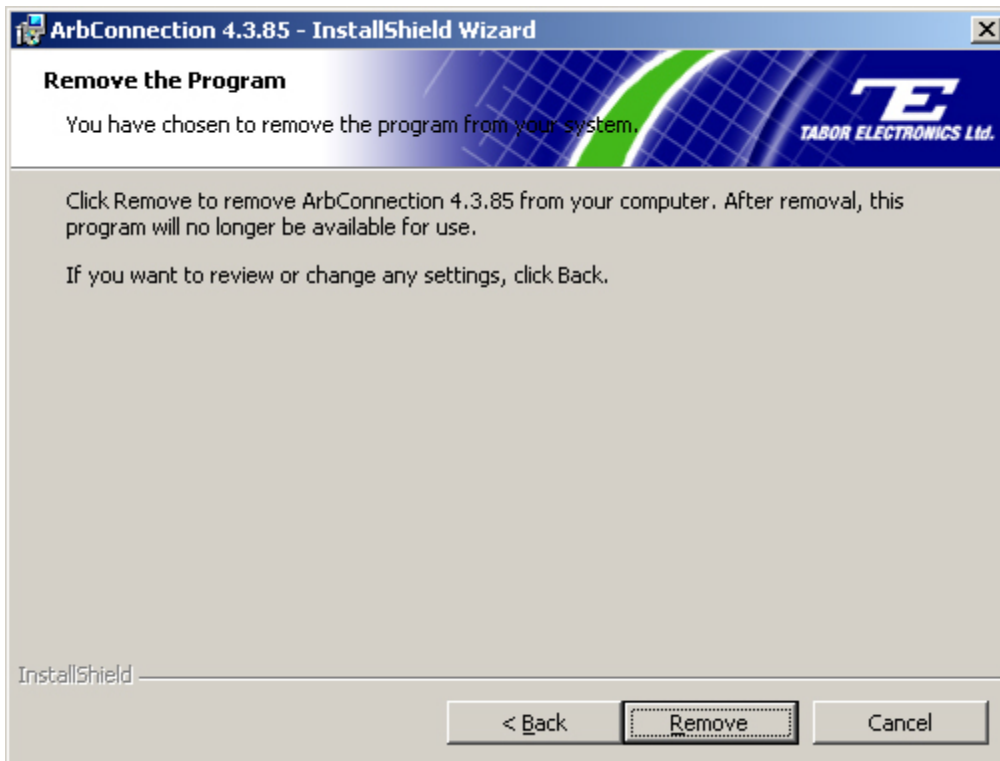

Figure 2-18: Removing ArbConnection Software
4. If you are sure you want to continue, click on “remove” and your ArbConnection will be permanently removed. Please see Figures 2-18 to 2-20 to view the rest of the removal process.